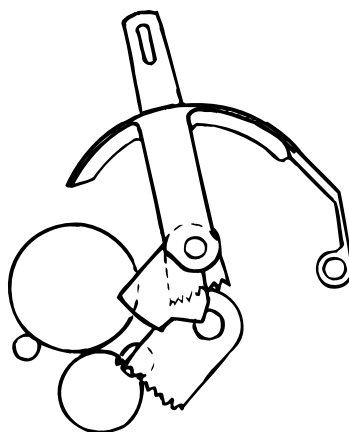

Figure 2-14
(7) Paper clamp mechanism (See Figure 2-14.)